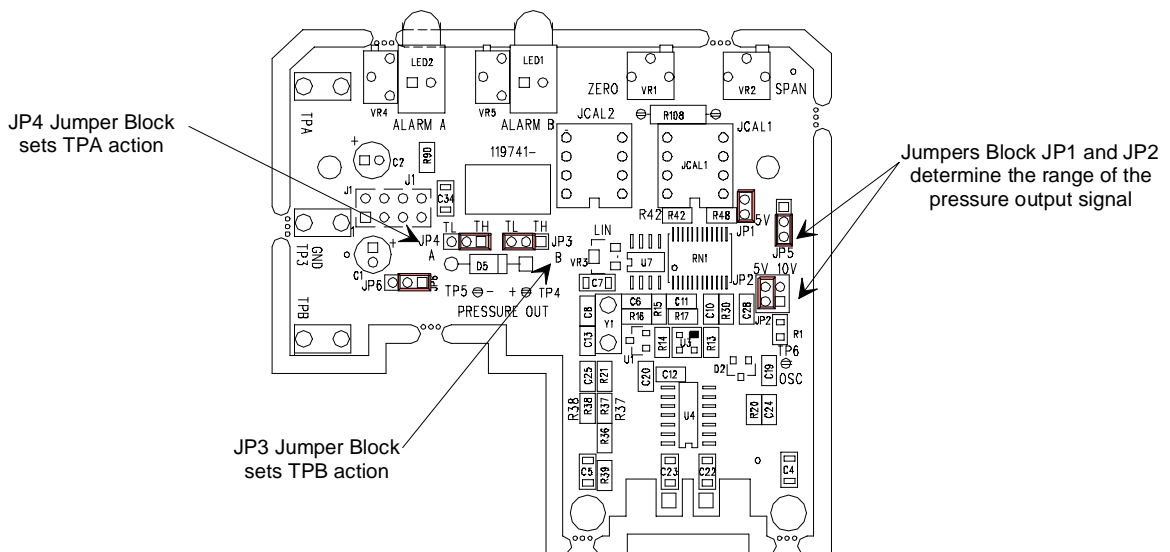

Figure 21: Jumper Positions on the Transducer Board
Refer to Figure 21 for the location of the jumper blocks.
6. Refer to Figure 21, page 47, for the location of the "JP2" jumper block.